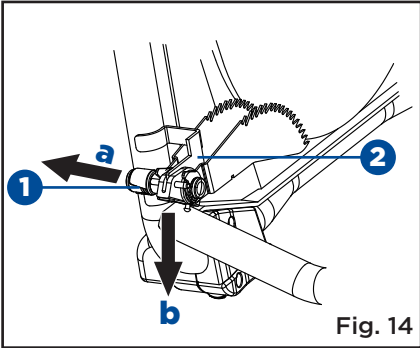

Fig. 14
- Pull out and hold knob (1) and push anti-kickback pawls down, remove it from the anti-backpawls storage (2) at the bottom left rear side of the saw. (Fig. 14)
- Pull out and hold knob (1). Place the spring pin (3) on the anti-kickback pawls (4) into the notch (5) indicated on the riving knife (6).
- Release knob (1) to insert the pin (7) into hole (8) indicated on the riving knife (6).